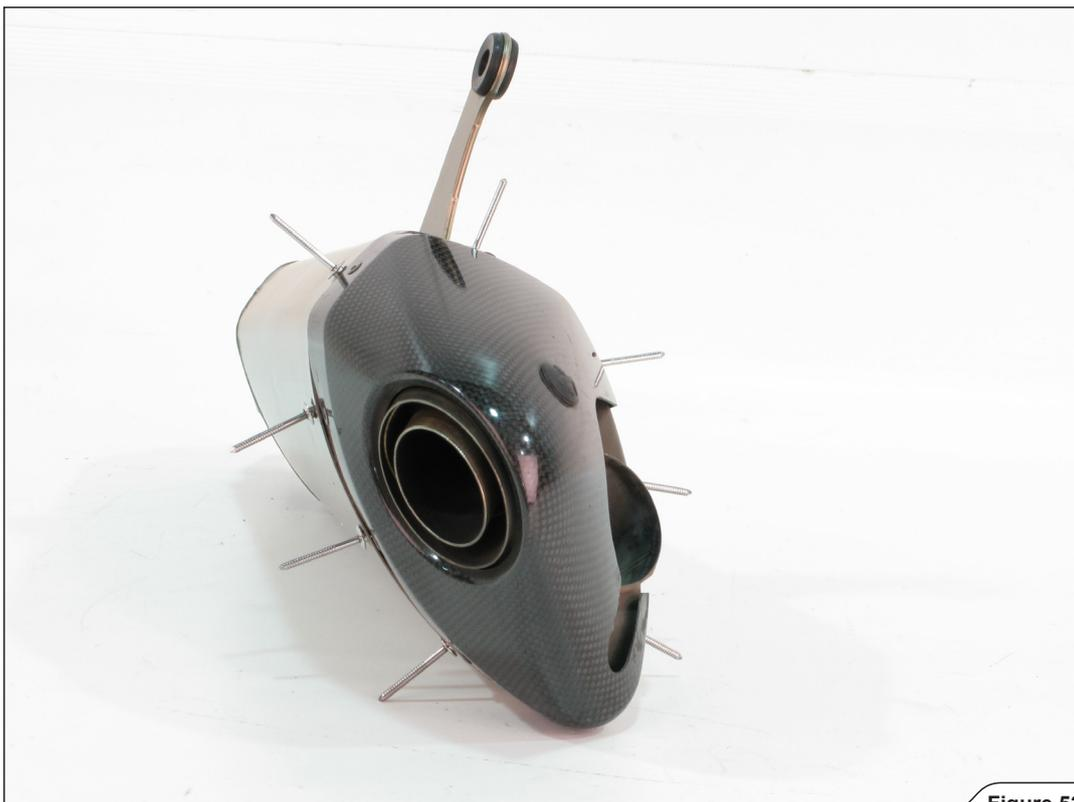

Figure 52
6. Insert the rivets supplied in the Akrapovič reparation kit into the mufflers, as shown (**Figure 52**).